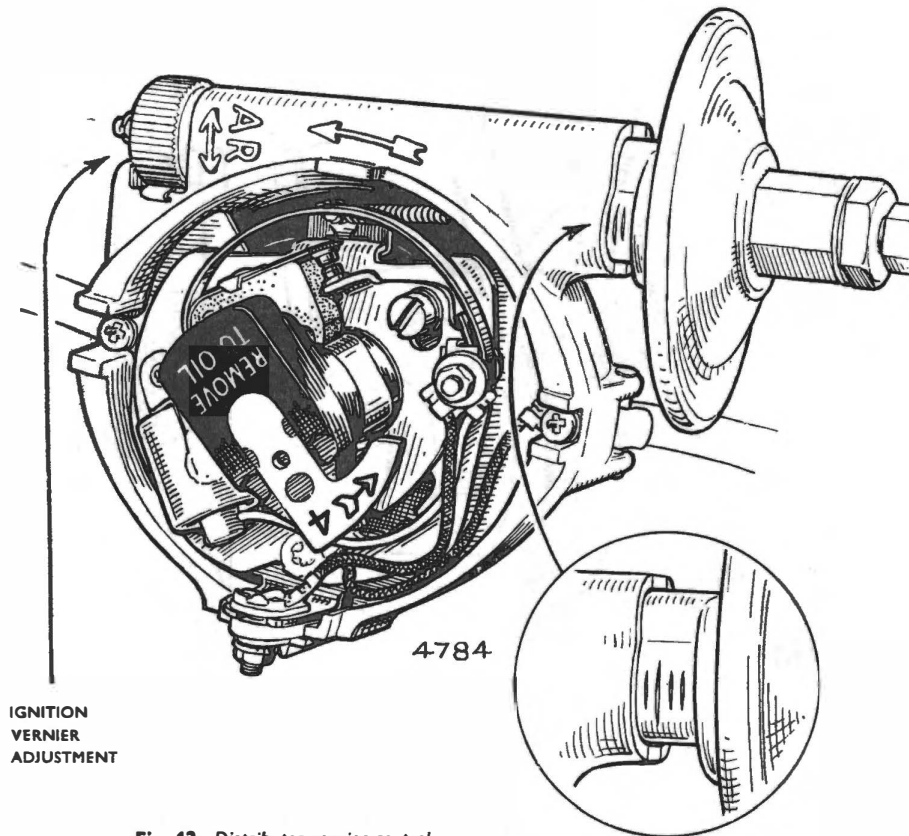

Fig. 12. Distributor vernier control
- (b) The vernier control shown in Fig. 12. This provides an easy means of making small adjustments to the ignition timing to give the best performance from a particular fuel, or to eliminate pinking when excessive carbon deposits have formed in the engine. The knurled knob should be turned clockwise to retard and anti-clockwise to advance, one complete turn of the knob being equivalent to three crankshaft degrees, and one vernier division, shown in the inlet of Fig. 12. to four crankshaft degrees.
Set the vernier control to the midway position (2 divisions showing on scale). See Fig. 12, top illustration.